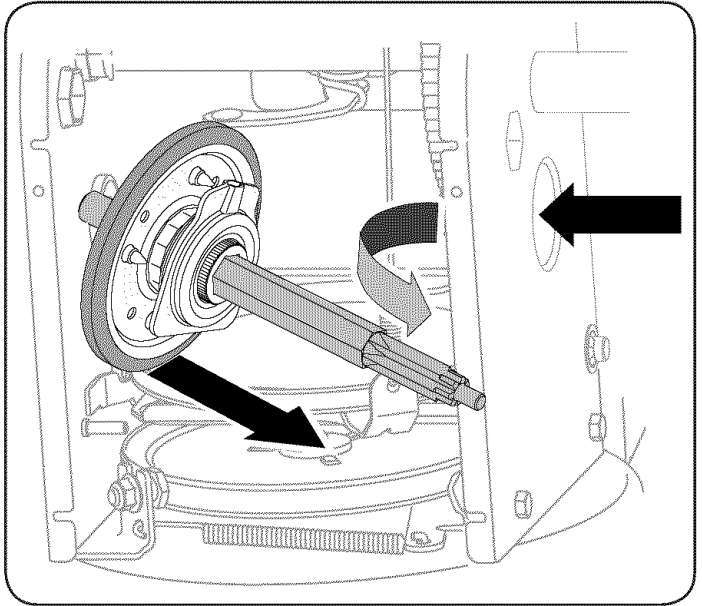

Figure 30
7. Carefully position the hex shaft downward and to the left before carefully sliding the friction wheel assembly off the shaft. See Figure 30.